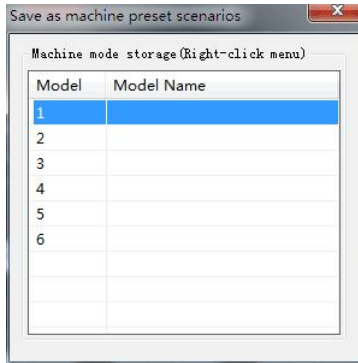

Figure 3.4.2
Step2: Click "Save as machine preset scenarios " item will pop up after the Save As dialog window machine preset (Figure 3.4.2).
Step 3: Figure 3.4.2 dialog box, does not show the name of the data indicates that this scene is the factory default data, select the user preset number you want to save the machine location (such as Option 4), and then point below the "save" button, you pop up as shown in Figure 3.4.3," enter the scene name "box. **If you select the number of the existing scene name, it will overwrite the original data!!**